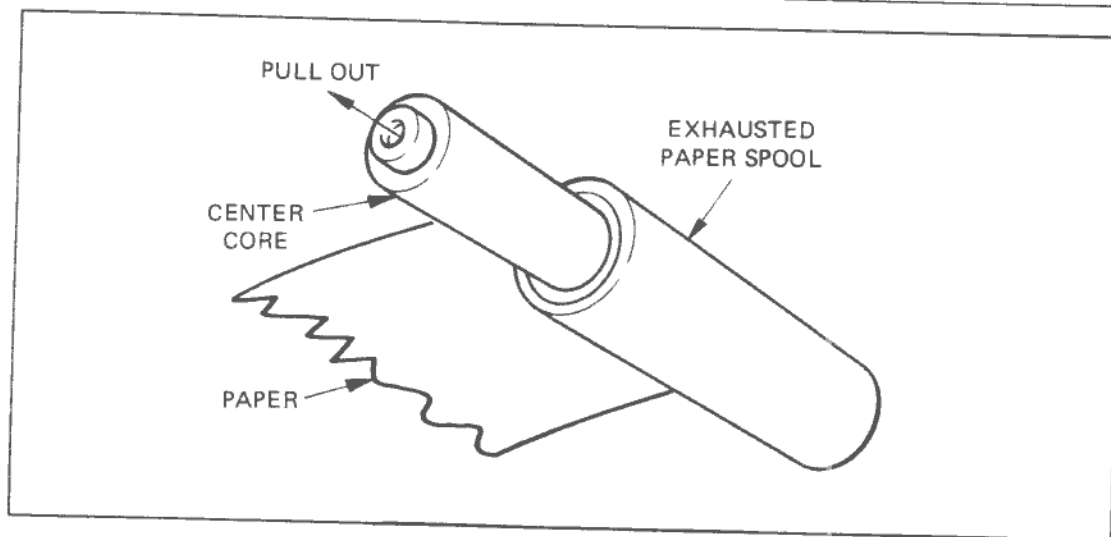

Figure 3-24. The Paper Spool
3. Replace the finished spool by pulling out the center core and sliding it into a new spool (Refer to figure 3-24).
3. Replace the exhausted customer paper spool by pulling the center core out and inserting it into a new spool (refer to figure 3-24).